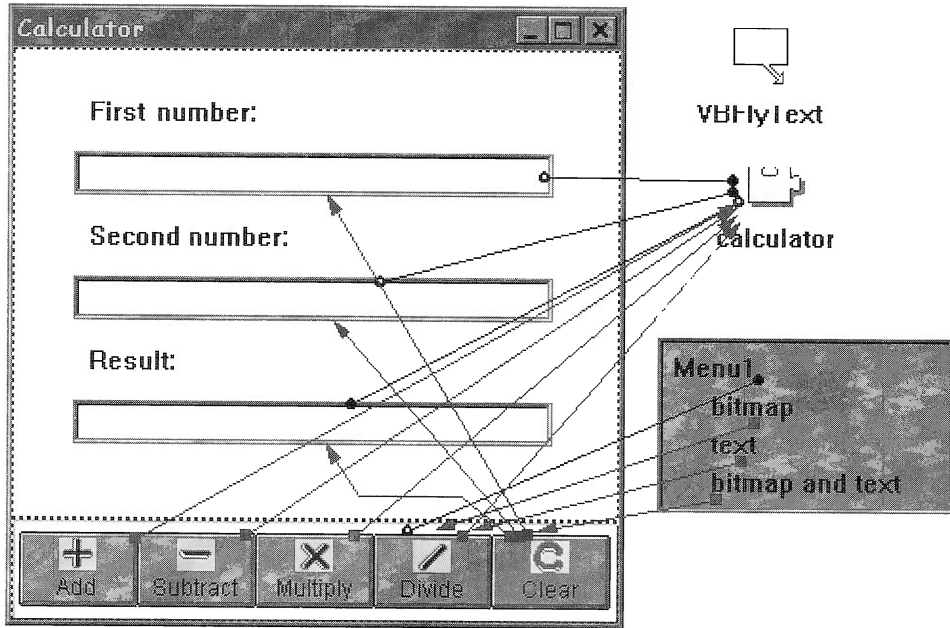

Figure 94: New actions connected to the calculator part
- ❑ Connect the **buttonClickEvent** of each tool bar button to the appropriate action on the **calculator** part. The CalcView part should look like Figure 94.